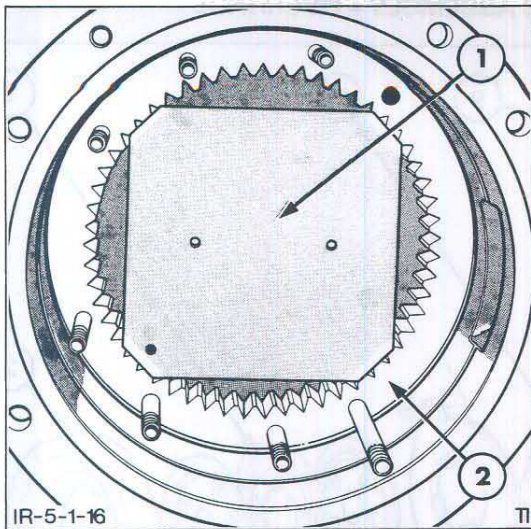

Figure 16
- e. Place the axle housing on a press beam with the large end up. Position Tool No. FT4500 or 2122 on the ring gear, Figure 16 and press the ring gear into the housing. Ensure the ring gear is pressed squarely into the housing.